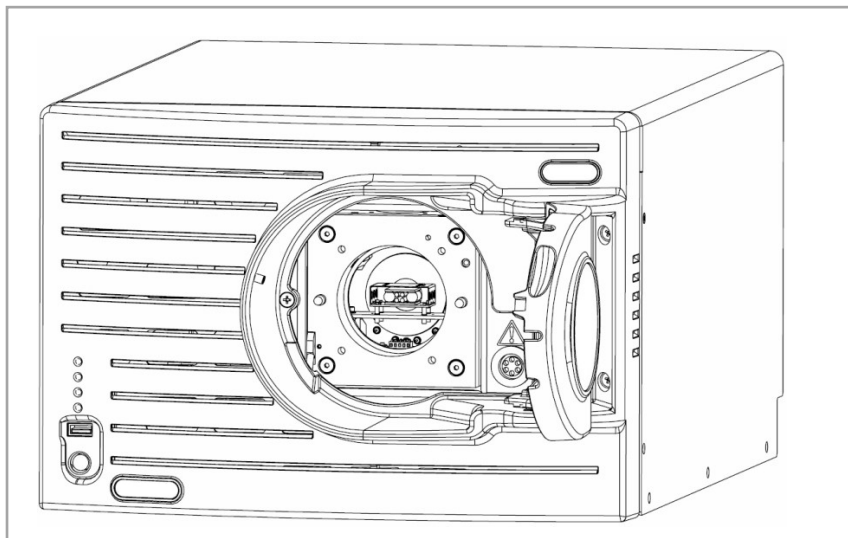

Fig. 8 MiD without the vac-chip assembly fitted
- The MiD without the vac-chip assembly should look like in Fig. 8.